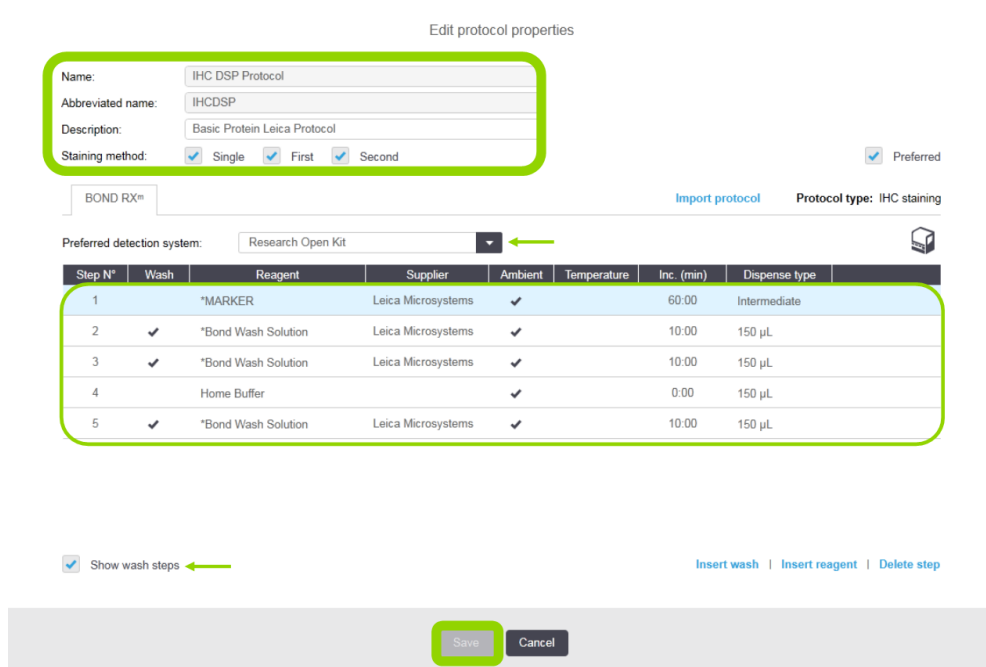

Figure 13: Edit protocol properties window (protein)
- In the **Edit protocol properties** window (see Figure 13), enter the following information:
- Change the protocol (using **Insert Wash**, **Insert Reagent**, and **Delete Step** buttons), ensuring the **Inc (min)** and **DispenseType** fields are modified to match those in Figure 13 and Table 5. (See **NOTE** below Table 5 for alternate instruction if BOND RX/RX^m is updated with data file BOND-RX-Ext-v29). Make sure the **Home Buffer** reagent matches the reagent which has been assigned to the first container in your BOND Research Detection System.